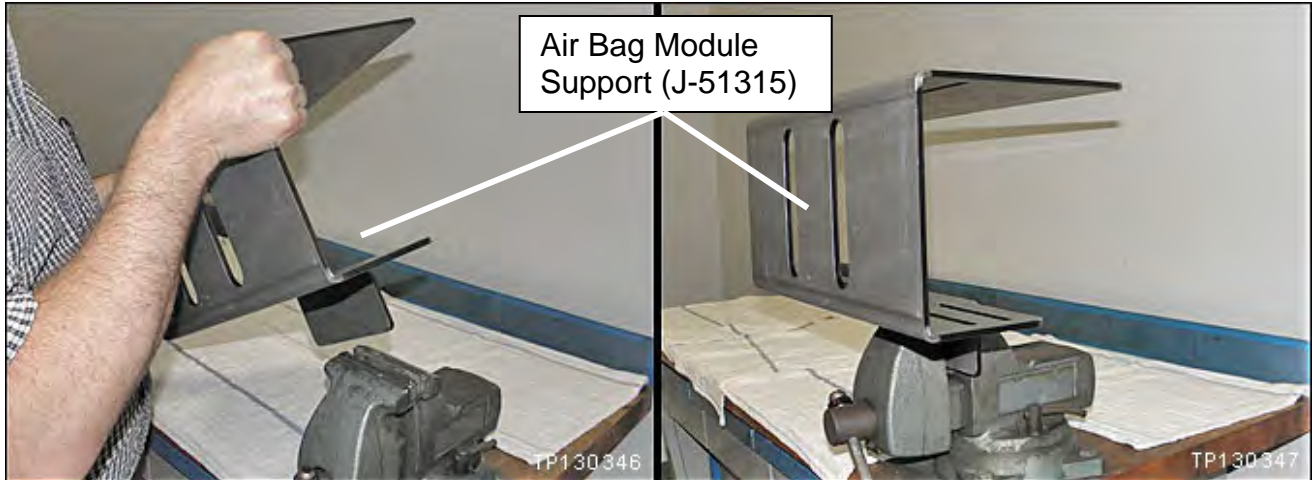

Figure 8
12. Securely mount the Air Bag Module Support (support) in a vise (see Figure 8).